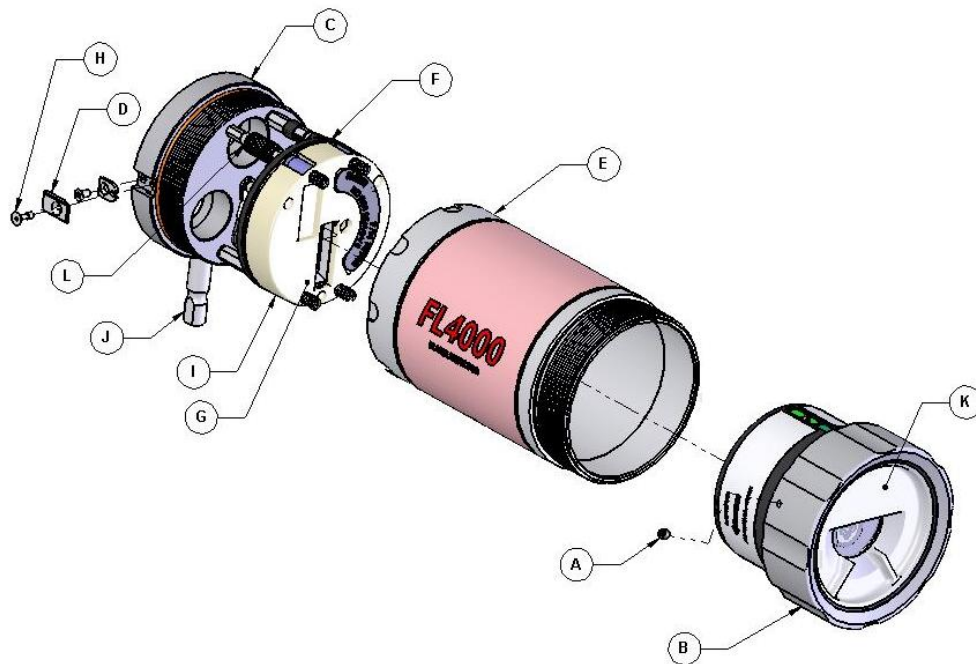
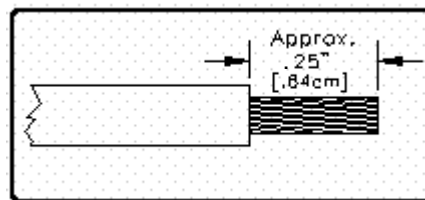

Figure 15: FL4000 Housing
Figure 18: Wire-Strip Lengths
The following procedure should be used in conjunction with Figure 15:
All wire connections are made through the $\frac{3}{4}$ inch (1.9 cm) NPT openings in the Junction Module (C, Figure 15) to the Terminal Block. The Terminal Block is located on the Junction Module Assembly (F) and accepts 14 AWG (2.08 mm²) to 22 AWG (0.33 mm²) stranded or solid-core wire. Each wire should be stripped as shown in Figure 18.